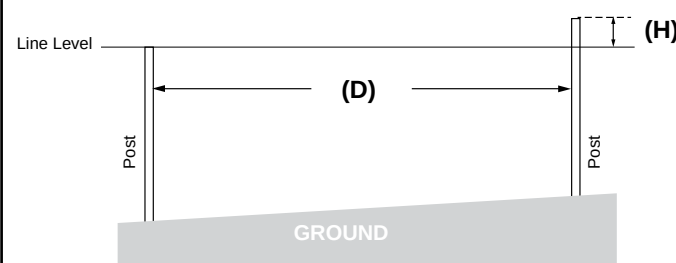

Fig. 1
- Referring your **Fence Layout Guide**, stake locations for all corner, end, and gate posts. The gate posts should always be 48" apart. (Fig. 1)
- Mark a "ground" line 50" from the top down on each post (Fig. 1). **If you are installing on extremely uneven terrain or thick turf, mark at 51".**